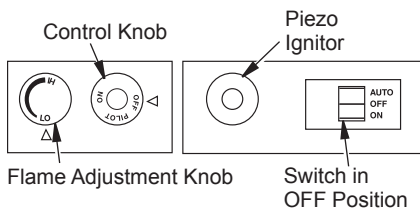

Figure 17 - Control Knob and Ignitor Button Location, Manual Controlled
4. Press in and turn control knob clockwise  to the OFF position (see Figure 17, page 17).
5. Wait five (5) minutes to clear out any gas. Then smell for gas, including near the floor. If you smell gas, STOP! Follow "B" in the safety information, starting in column 1 of this page. If you don't smell gas, go to the next step.
6. Press in and turn control knob counterclockwise ↶ to the PILOT position. Press in control knob for five (5) seconds (see Figure 17).